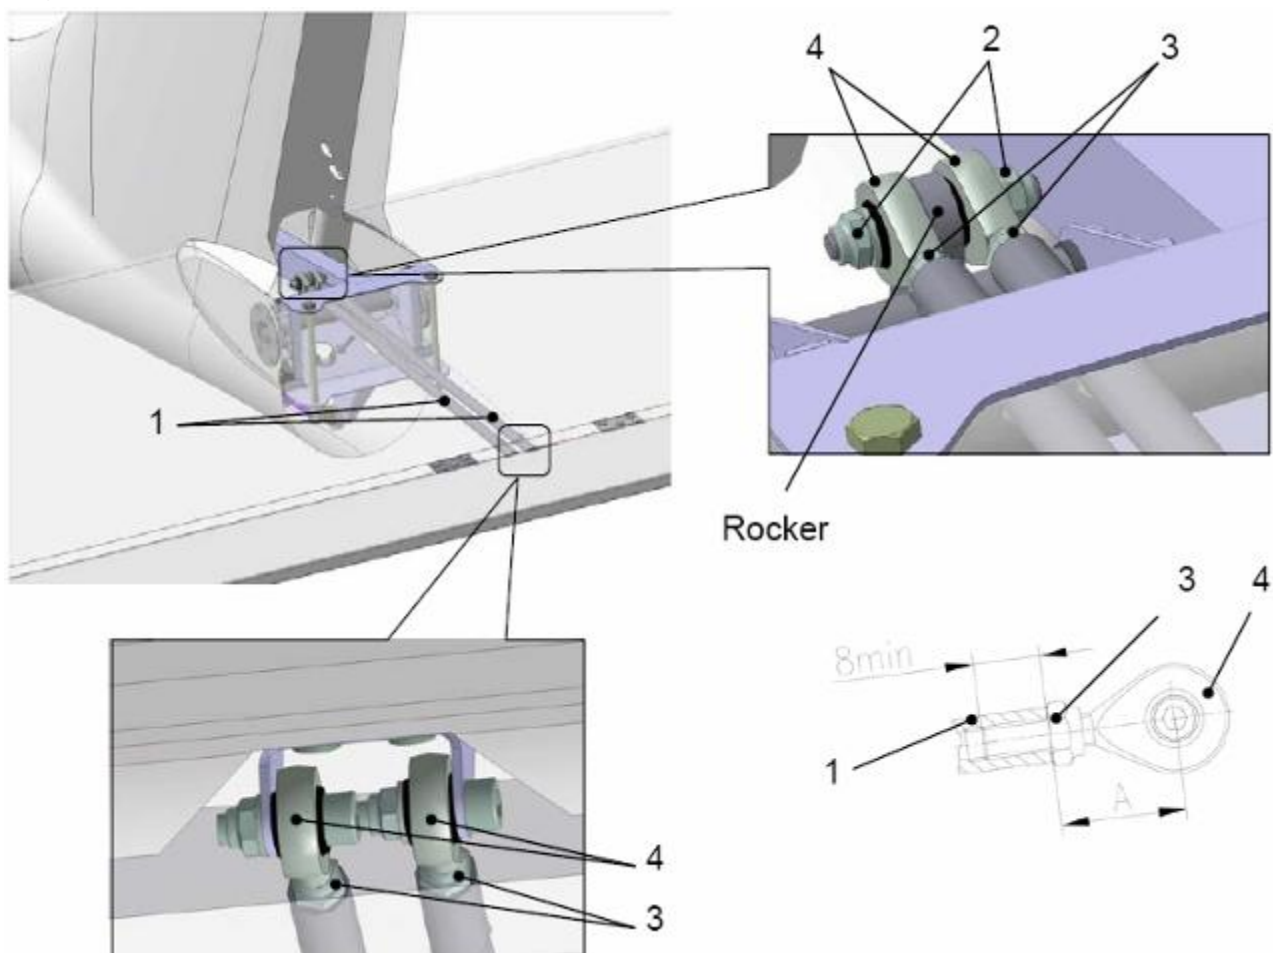

Fig. 4-26
Trim Tab angles of deflection can be adjusted by changing of length of the Trim Tab push-rods (1), Fig. 4-26.
2. Unscrew 2-3 turns the push-rods lock nuts (3).
4. Unscrew nuts (2) and disconnect push-rods (1) from Rocker.
5. Adjust length of push-rods by screwing in or screwing out the rod-ends (4) to set Trim Tab in neutral position ($7.5 \text{ mm} \pm 2.5 \text{ mm}$ downward at steering wheel and Stabilator neutral position).
6. Connect push-rods to Rocker and secure by nut (2).
7. Tight the lock-nuts (3) with torque 5.5 Nm (49 lb-in).
8. Ensure that thread parts of rod-ends (4) screwed in to push-rods no less than by 8 mm. To check it measure the dimension A on Fig. 4-26, the dimension A shall not exceed 25 mm.
10. Exchange nuts (2) by new nuts and tightening with torque as specified 4.3.4.2.3.